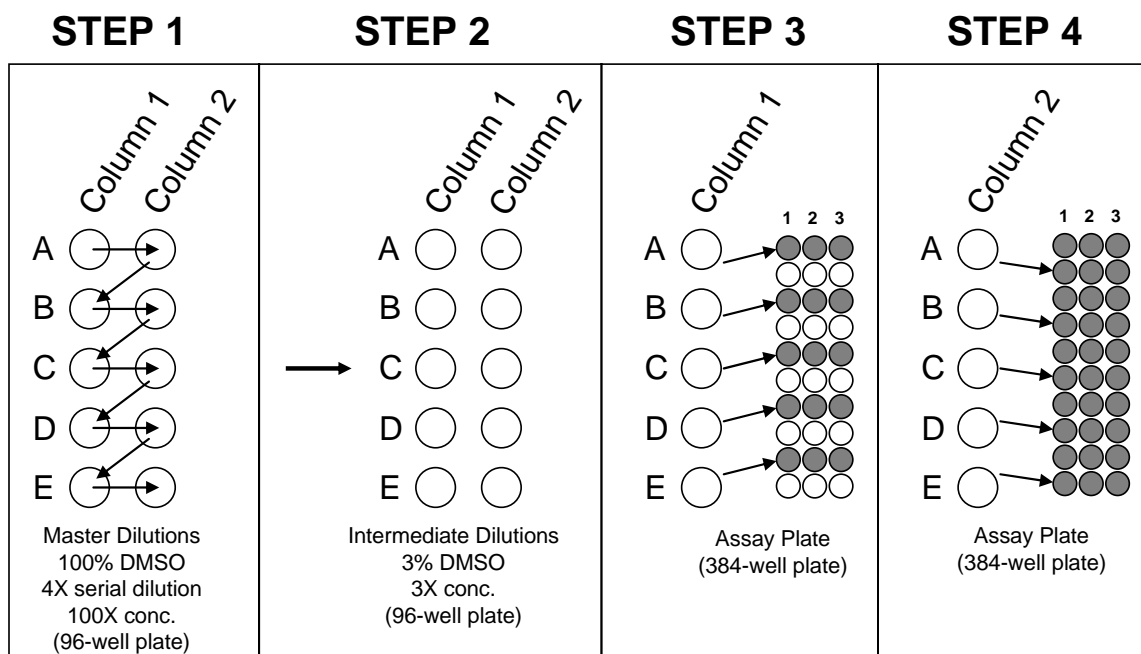

Figure 6. Compound serial dilution.
1. Prepare an intermediate dilution series of each test compound by 4X serial dilution in DMSO such that the top concentration is 1 mM (suggested starting point) (Figure 6, Step 1).
- f. Continue process as depicted in Step 1 of Figure 6.
- Dilute the “Master Dilution” series 33.3-fold into Kinase Buffer A. Remove 5 µL of each concentration of diluted compound, transfer to another 96-well plate, add 162 µL of Kinase Buffer A and mix (Figure 6, Step 2).
- Add 5 µL of each concentration of serially diluted compound to triplicate assay wells in a 384-well plate (columns 1-3) as depicted in Steps 2 and 3 of Figure 6.